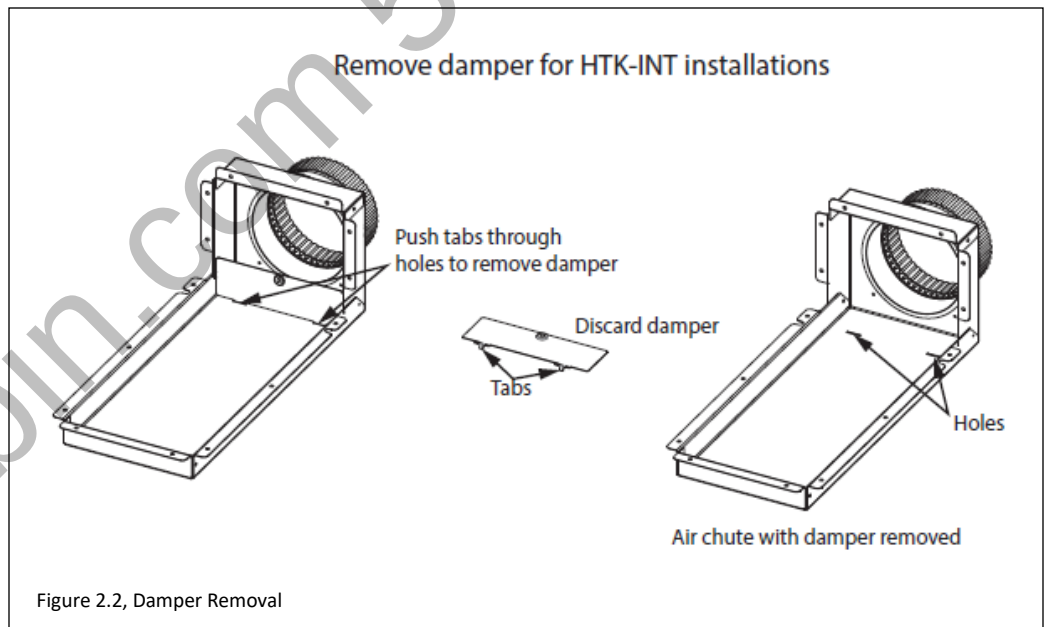

Figure 2.2, Damper Removal
3. Remove the damper from the heat transfer kit air chute by pushing the metal tab through the hole and pulling the damper out of the air chute. See Figure 2.2 and your air chute may look different than the one shown.